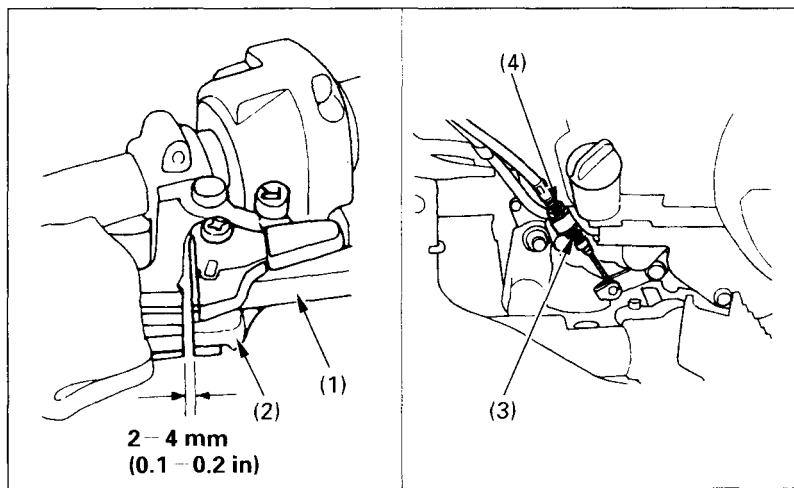

Fig. 4-19 (1) Rear brake lever
Measure the reverse assist lever (2) free play. Free play, measured at the lever (2) end near the cable (Fig. 4-19), should be approx: